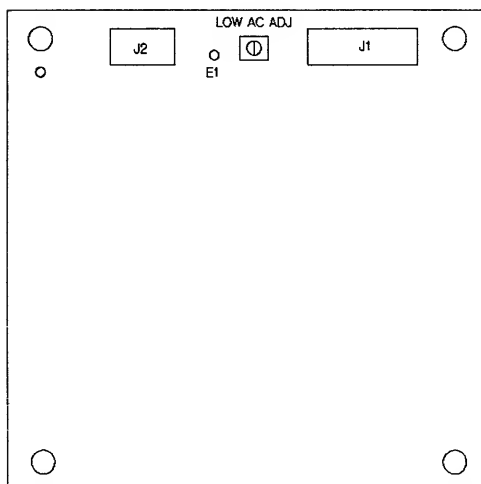

Figure 6-7. Power Control PCA (Series 30,33 and 39/40/42/42XP/52)
1. Rotate low AC potentiometer fully counterclockwise, shown in Figure 6-7.
2. Jumper test point E1, shown in Figure 6-7, to ground.